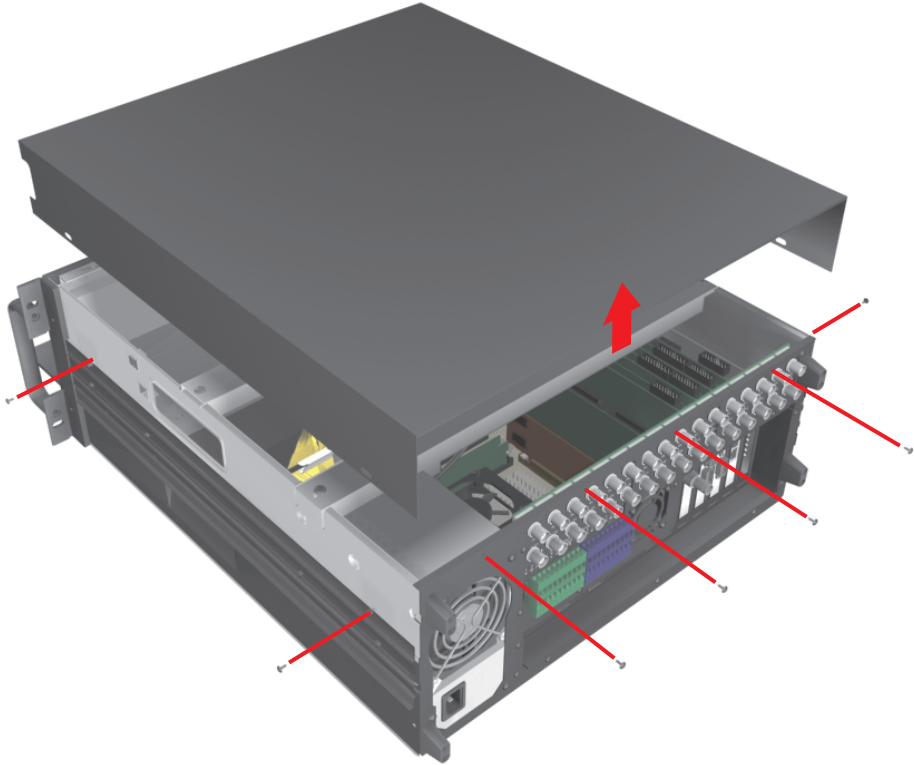

Figure 5. Removing Chassis Cover
- a. Remove the two top-most screws on the left and right side panels of the DX8000. Refer to Figure 5.
- b. Remove the four silver screws fastening the cover to the rear of the unit. These screws are the ones closest to the top of the unit. Refer to Figure 5.
- c. Carefully remove the chassis cover by sliding it back and up. Set aside the cover. Figure 5 illustrates the interior of the DX8000.